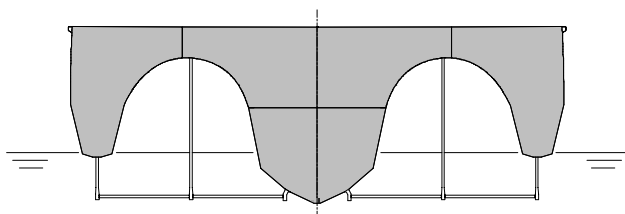

Figure 6: Foil arrangement on NWBS trimaran
- The aspect ratio of the foil can be high on a trimaran, with the foil spanning almost the full beam of the vessel. A simple illustration of the benefit of high aspect ratio is found in nature — compare the flying abilities of the humble chicken (wing aspect ratio approximately 2) to the mighty albatross (aspect ratio approximating 11) — see Figure 6.